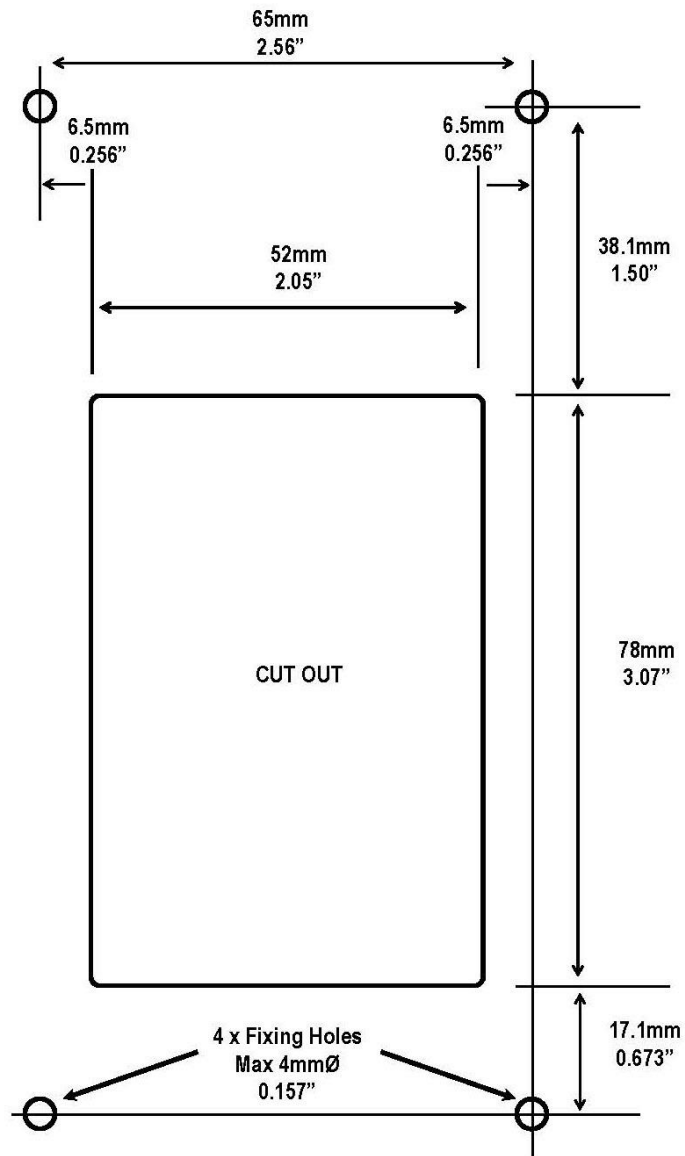

Figure 17: AFA4000 cut-out template
1. Use the cut-out details provided with the unit (Figure 17) to cut-out and drill the holes in the fume cupboard for the AFA4000/2 mounting bracket.